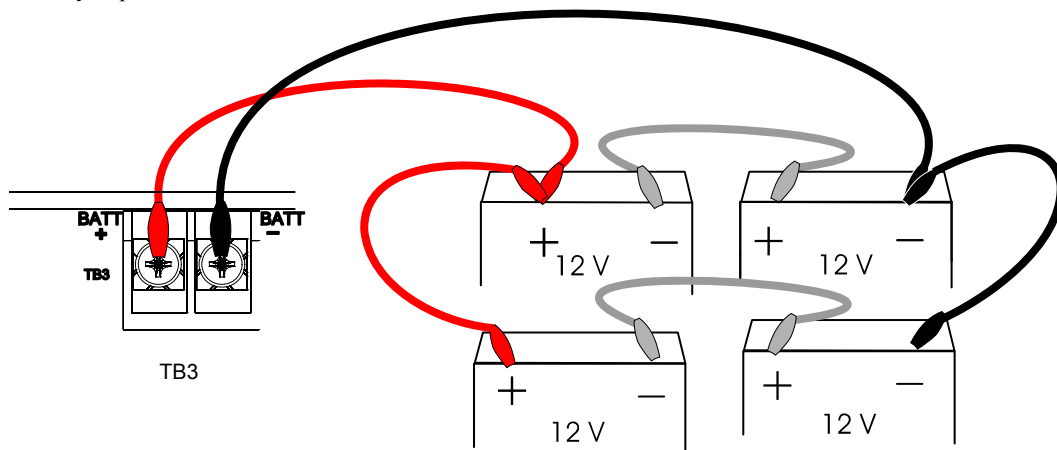

Figure 2.20 Connecting Four Batteries to the Power Supply
4. **Only after initial system power-up**, connect the two pairs of batteries. Use two battery interconnect cables to tie each unoccupied negative (-) terminal to an unoccupied positive (+) terminal, as shown in Figure 2.20.